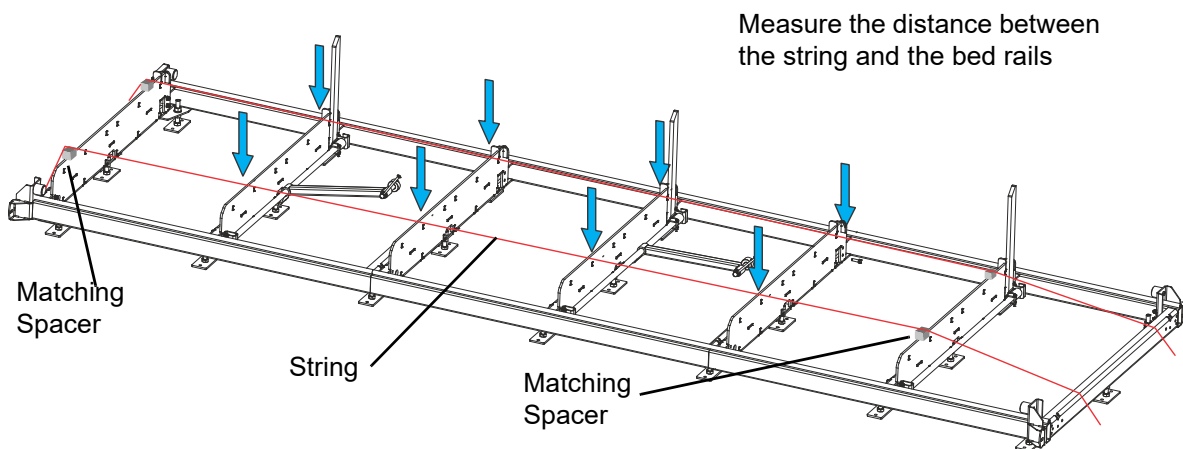

FIG. 2-12
See Figure 2-12.
2. Run a string from the front bed rail to the rear bed rail near the operator's side of the frame. See Figure 2-12.